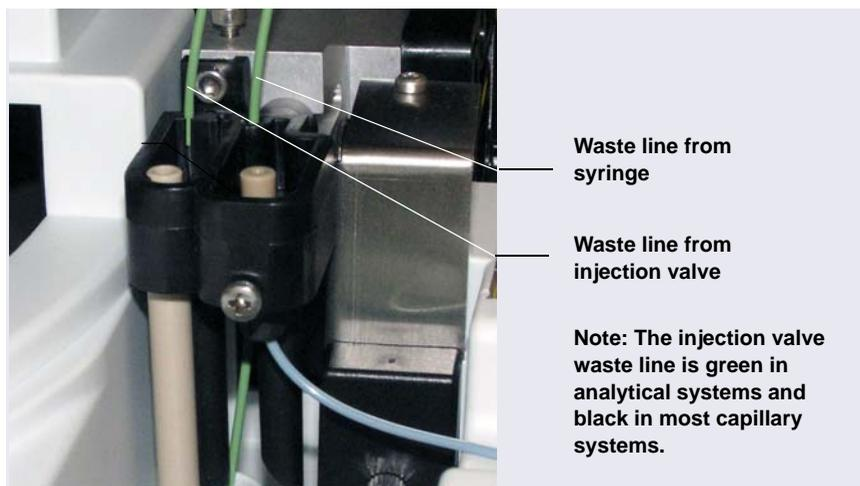

Figure 3-15. *Injection Valve Waste Line Installed in Dionex AS-AP Waste Port*
4. Route the line to the Dionex AS-AP waste port and insert the line into one of the round openings in the waste port (see Figure 3-15).